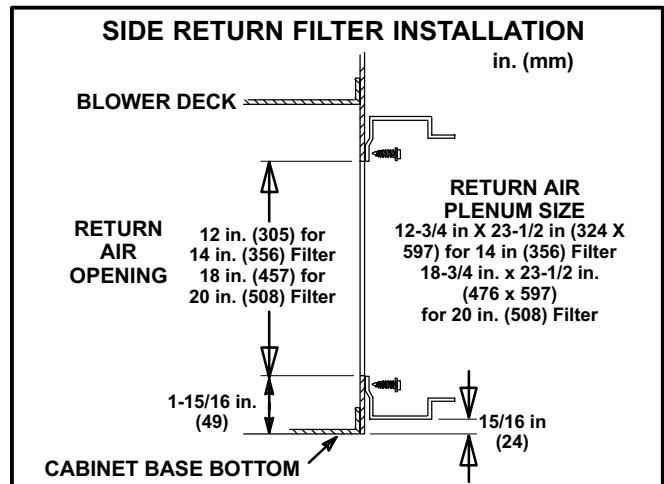

FIGURE 5
- 2 - Screw filter rack into place with the eight self drill, self tap screws provided. See figure 5.